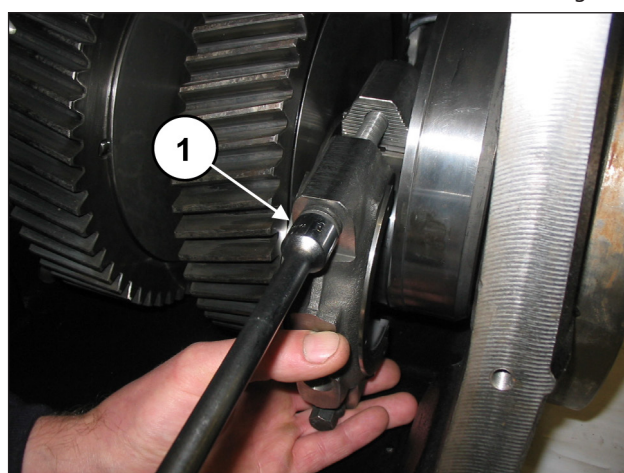

Fig. 83
Fasten the caps to the half-conrods by means of M12x1.25x87 screws (pos. ①, Fig. 83).